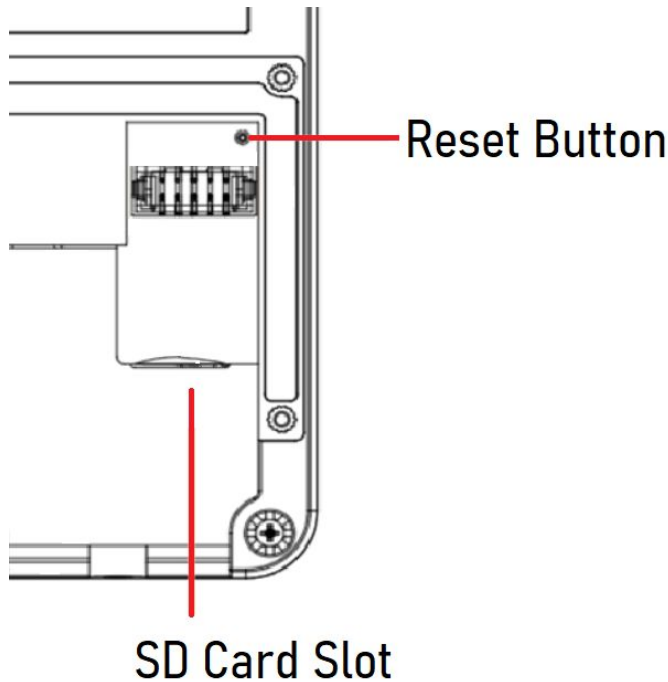

Figure 2-1
Step 1 You will need to loosen the Doorbell grub screw to and remove the doorbell body from the mount. Please refer Figure 2-1 for SD card and reset button location.